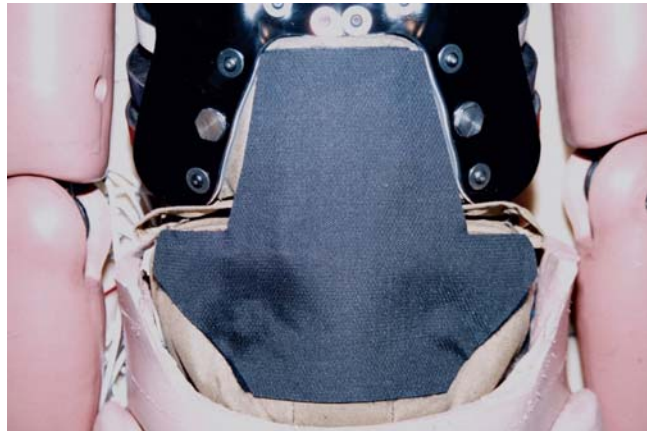

Figure 10.24- Upper and Lower abdomen cover
7. After the installation of the lower abdomen is complete, cover the front surfaces of the upper and lower abdomen assemblies with the Upper and Lower Abdomen Velcro Cover (T1LAF117), as shown in **Figure 10.24**.